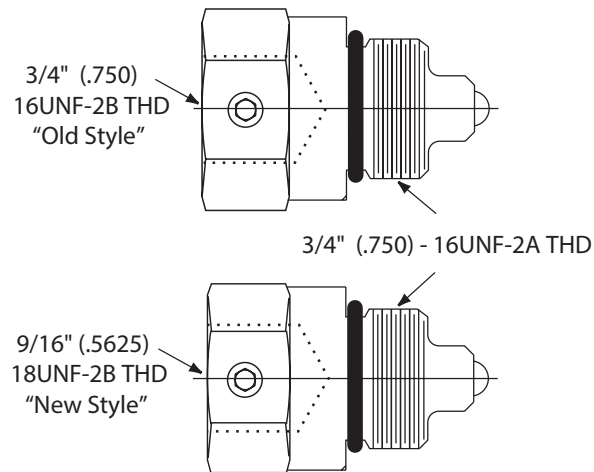

Figure 4-1
2. The “old style” adaptor accepts a 3/4" threaded switch, and the new style accepts a 9/16" threaded switch. See figure 4-1.